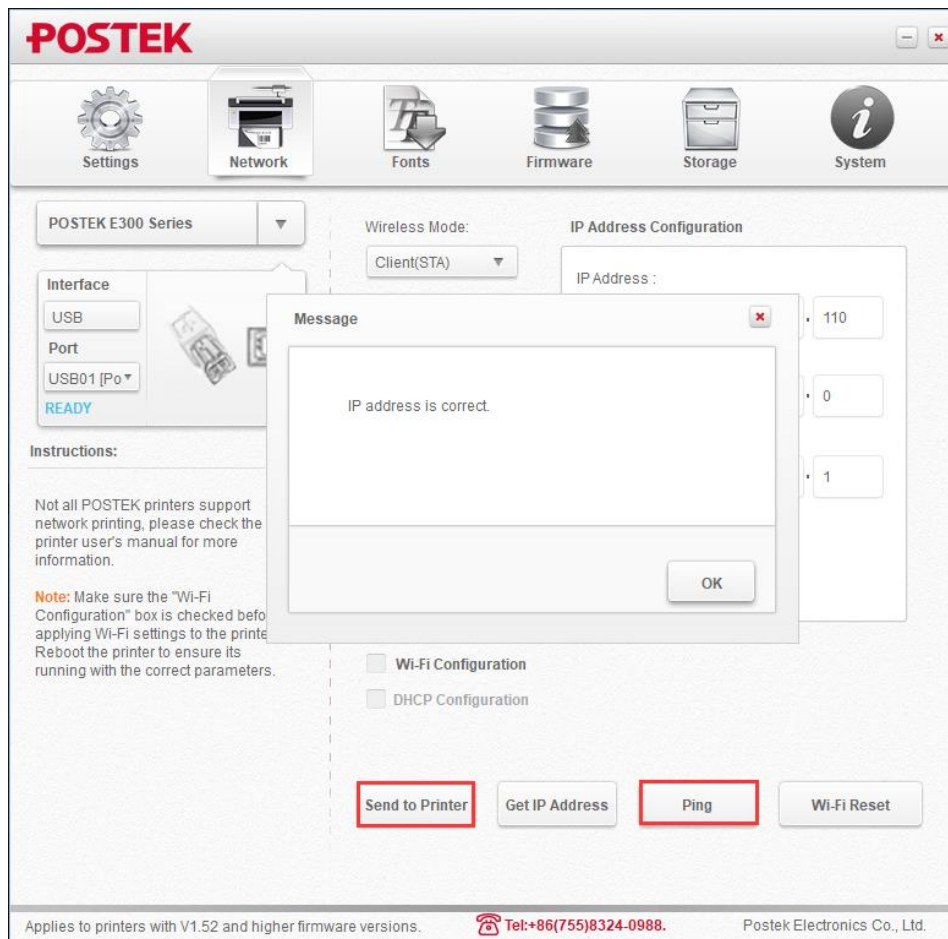

Figure 2-30 Successful Configuration
6. Click “Send to Printer”, the [MEDIA] and [RIBBON] indicators will blink simultaneously, when the two indicators are lit and return to a steady state, click “Ping” to check whether the configuration is successful or not, as shown in Figure 2-30.